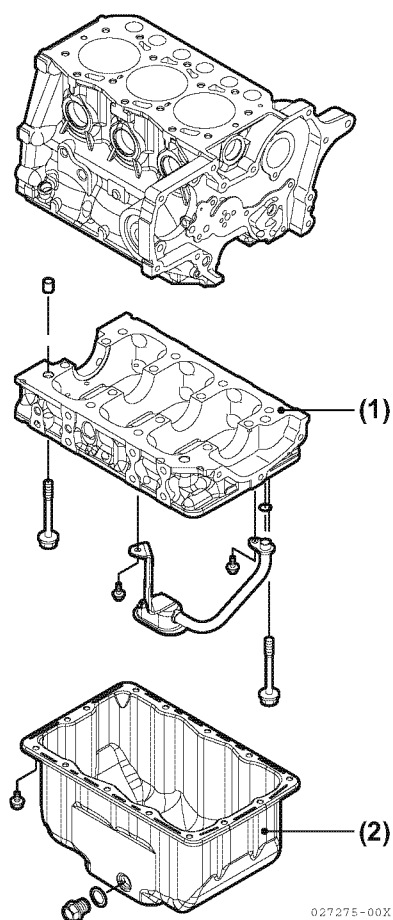

Figure 6-103
2. Apply a continuous bead of ThreeBond Liquid Gasket No. 1212, Yanmar Part No. 977770-01212 to the mounting surface of the oil pan (**Figure 6-103, (2)**) and crankcase extension (if equipped) (**Figure 6-103, (1)**). Be sure to circle each bolt hole.
3. If equipped, reinstall the crankcase extension (**Figure 6-103, (1)**). Reinstall the oil pan and tighten the bolts securely.